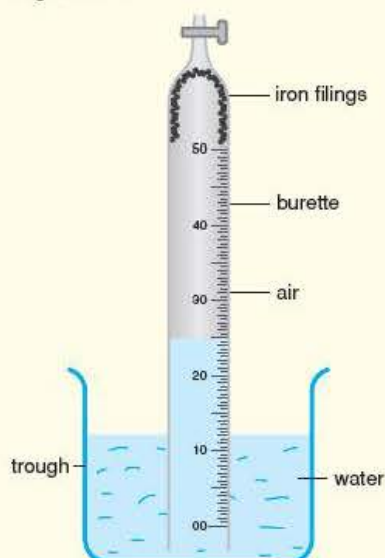

Figure 8.5
- 1 Iron reacts slowly with oxygen and water to form hydrated iron(III) oxide. A student placed wet iron filings in the end of a burette and set it up as in Figure 8.5.